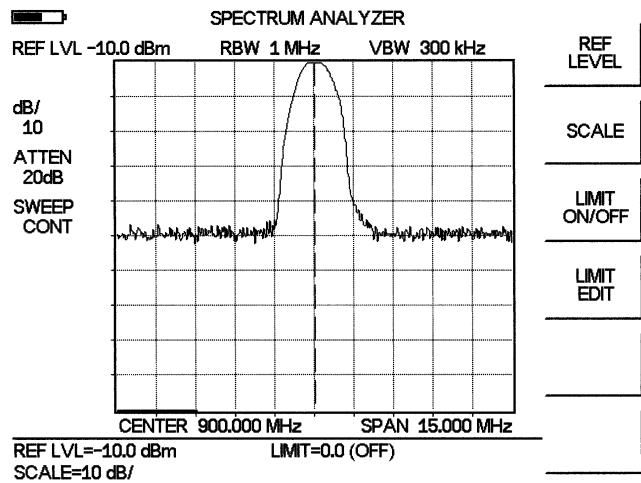

Figure 4-14. Reference level at -10 dBm
- Step 3. Press **ENTER**. Observe the display (Figure 4-14).